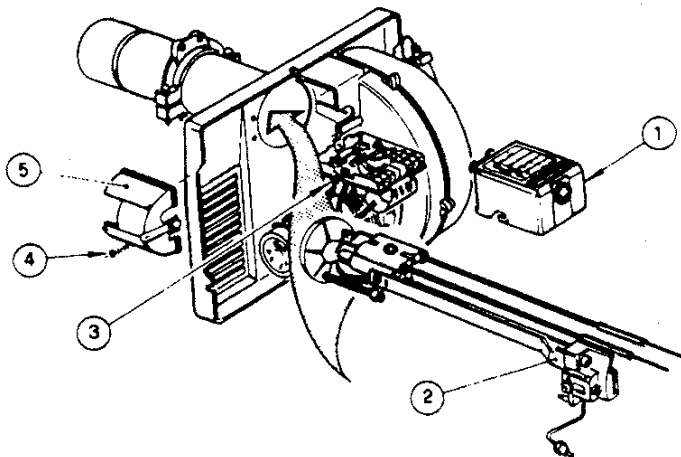

Figure 5: Installation/Removal of Riello Drawer Assembly
- n. Swing igniter closed, rotate tabs and tighten two (2) igniter screws.
a. **Installation/Removal of Drawer Assembly**, refer to Figure 5.
- Loosen SCREW (3), and then unplug PRIMARY CONTROL (1) by carefully pulling it back and then up.
- Remove the AIR TUBE COVER PLATE (5) by loosening the retaining SCREW (4) (Two SCREWS-Model F5).
- Loosen SCREW (2), and then slide the complete drawer assembly out of the combustion head as shown.